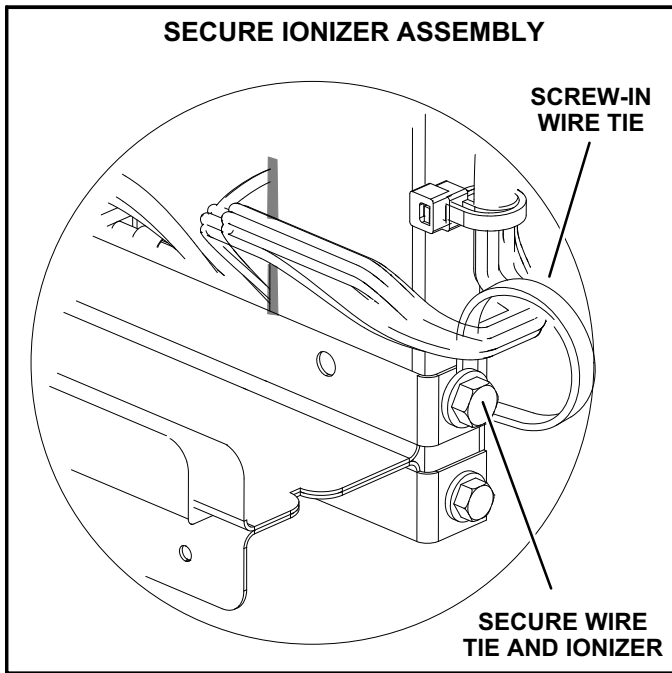

FIGURE 5
- 4- Using the provided screw, secure a screw-in wire tie where the bottom filter rack screw was removed. See figure 5.
- 7- Using the provided screw, secure a screw-in wire tie where the top filter rack screw was removed. See figure 5.